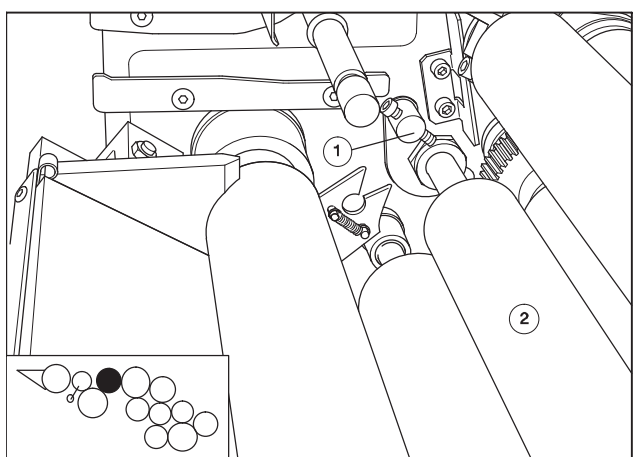

Fig. 17 Removing the 1st ink transfer roller
1. Press the lever on D.S. (Fig. 17/1) and O.S. downwards.
2. Remove the roller (Fig. 17/2).